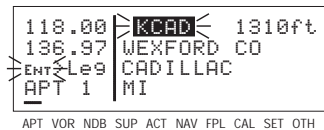

Figure 4-91
6. Press **ENT** to display the waypoint page for the selected waypoint (figure 4-91).